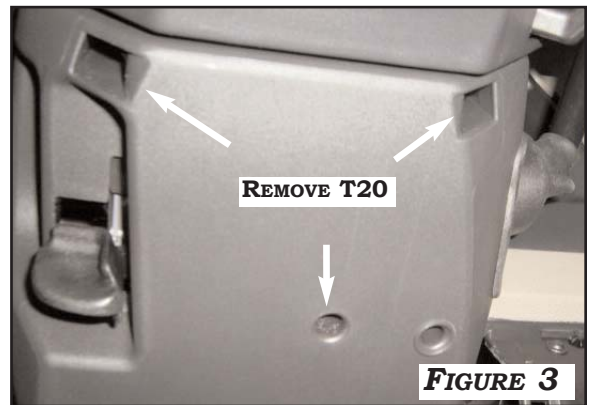

FIGURE 3
3. REMOVE (3) T20 SCREWS TO REMOVE THE STEERING SHROUD AS SHOWN IN **FIGURE 3**.